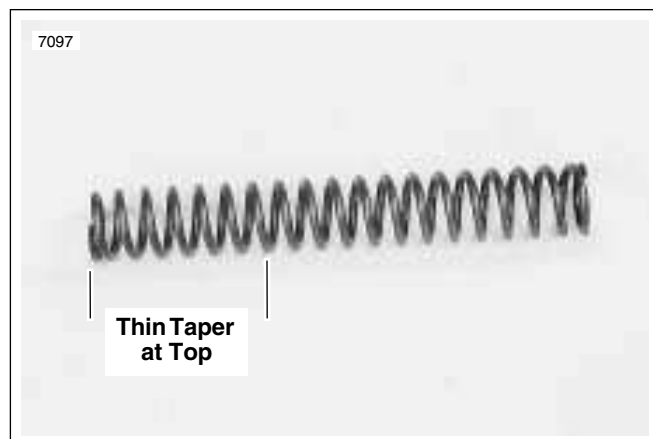

Figure 2-63. Spring Installation
16. See Figure 2-63. Install the spring, with the taper side at top, and the spring collar and spring joint.